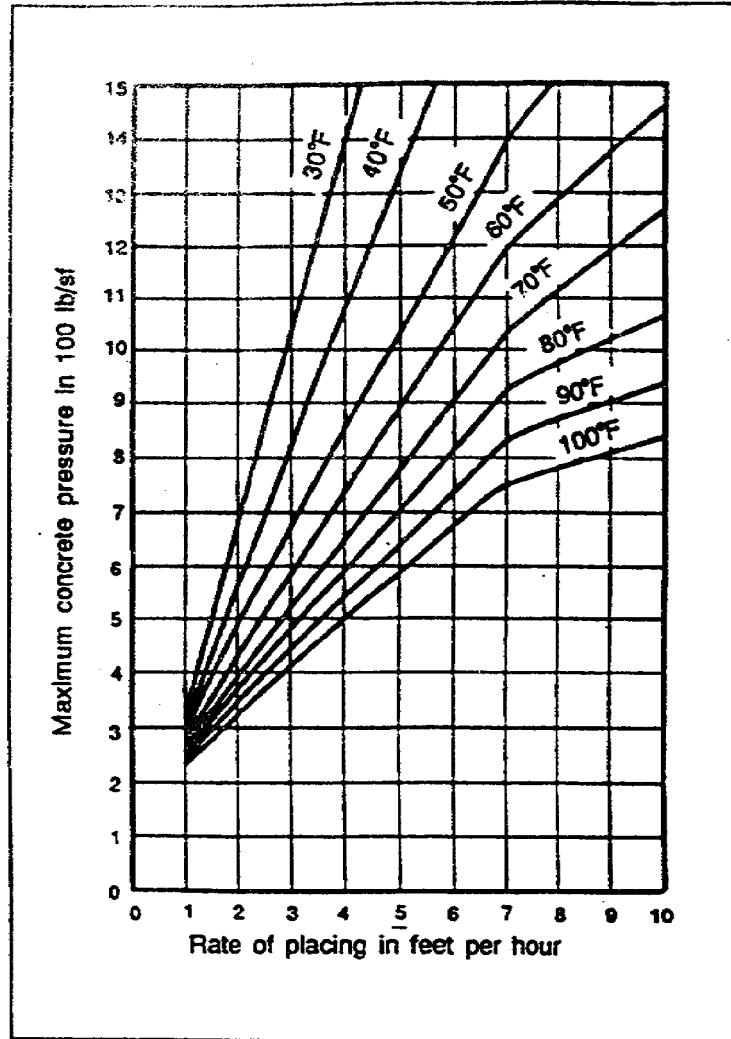

Figure 1-1. Maximum concrete pressure graph
Step 5. Determine the concrete placing temperature. You determine the concrete placing temperature by making a reasonable estimate of the placing temperature of the concrete. During the seasons, you will be considering the ambient (environmental) temperature. The optimum concrete temperatures are 55 degrees ($^{\circ}$) to 73 $^{\circ}$ Fahrenheit (F). If the temperature is too cold, heated aggregate and warm water are used to bring the concrete temperature up to an acceptable level. If the temperature is too hot, ice water may have to be used. The air temperature is normally 10 $^{\circ}$ F above the concrete temperature. You will be performing this step as you proceed through step 6.
Step 6. Determine the maximum concrete pressure. You determine the maximum concrete pressure by using Figure 1-1, page 1-12. Be as accurate as possible when using the graph. The use of a straight edge is highly recommended. You must estimate the concrete temperature, (step 5) first. To determine the maximum concrete pressure, use Figure 1-1, and the following procedures:
NOTE: This formula will be used in place of Figure 1-1 when determining maximum concrete pressure throughout the subcourse and in the examination.